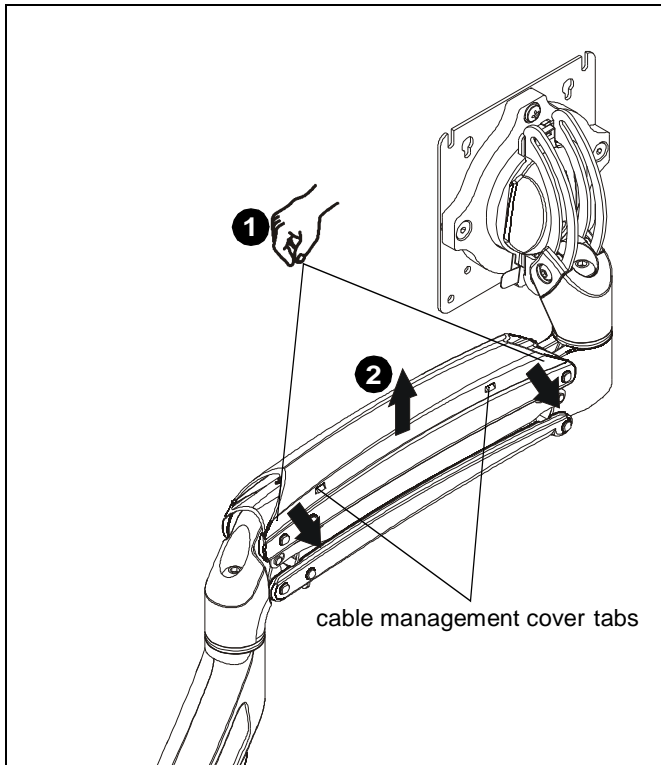

Figure 13
1. Press insides of cable management covers at both ends to unhinge tabs on either end of cable management cover on upper arm. (See Figure 13)
2. Lift cable management cover up until tabs are unhinged and cover is in the "open" position. (See Figure 13)